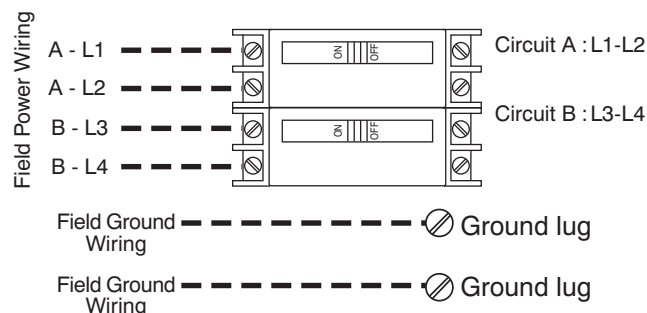

Fig. 5 – 12, 15 & 20 kW Circuit Breakers
- Units with 12kW, 15kW and 20kW heaters are wired for dual-supply circuits only. See Figure 5.